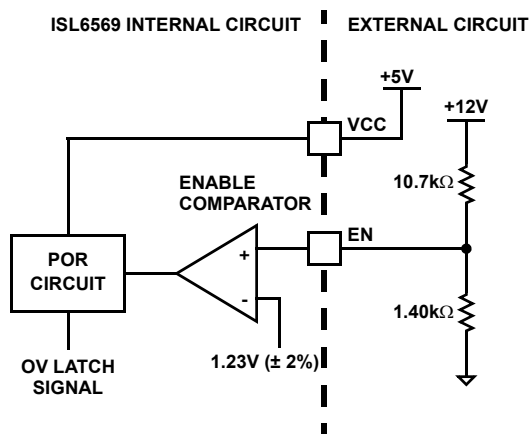

FIGURE 8. POWER SEQUENCING USING THRESHOLD-SENSITIVE ENABLE (EN) FUNCTION
Second, the ISL6569 features an enable input (EN) for power sequencing between the controller bias voltage and another voltage rail. The enable comparator holds the ISL6569 in shutdown until the voltage at EN rises above 1.23V. The enable comparator has about 90mV of hysteresis to prevent bounce. It is important that the driver ICs reach their POR level before the ISL6569 becomes enabled. The schematic in Figure 8 demonstrates sequencing the ISL6569 with the HIP660X family of Intersil MOSFET drivers which require 12V bias.